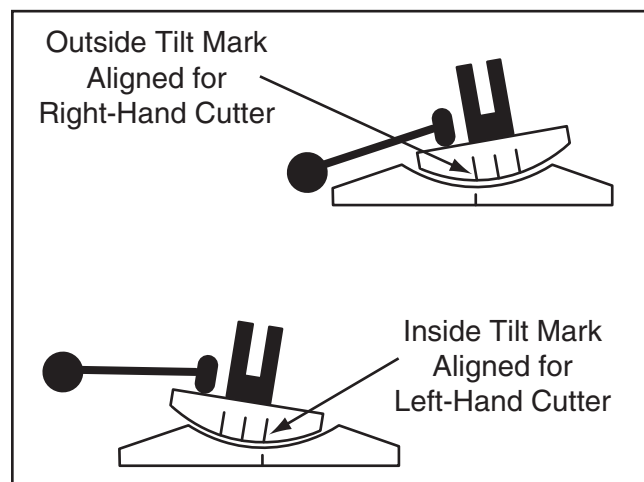

Figure 30. Chain holder tilt marks aligned for left- and right-hand cutters.
3. Tilt the chain holder so that the correct casting tilt mark aligns with the base mark, as illustrated in **Figure 30**. This will produce a 10° gullet angle when sharpening.